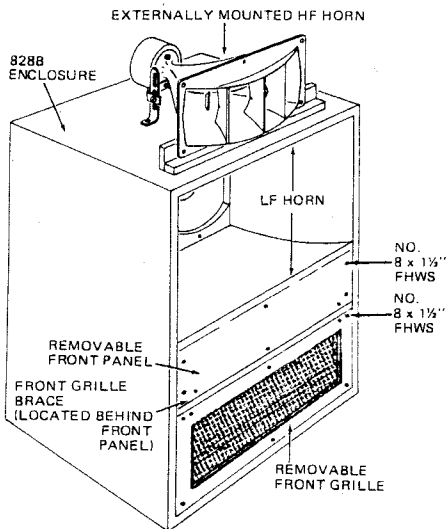
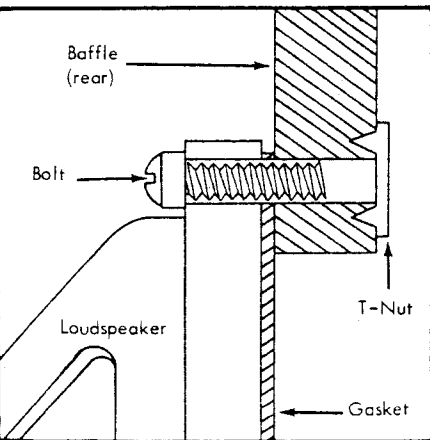

Figure 6. Externally Mounted HF Horn System, Front View (A7-8)
Figure 4. Rear Mounted Loudspeaker
- Install assembled HF horn to mounting board with three 1/4"-20 x 1 1/4" machine screws and lockwashers at three aligned T-nut mountings in board (see Figure 4). Do not tighten screws until horn position is set. Figure 6 shows horn installed.
To mount HF horn inside 828B cabinet, remove seven No. 8 x 1/4" flat-head wood screws from front grille (see Figure 6). Remove grille and store for possible future use. Remove three No. 8 x 1/4"